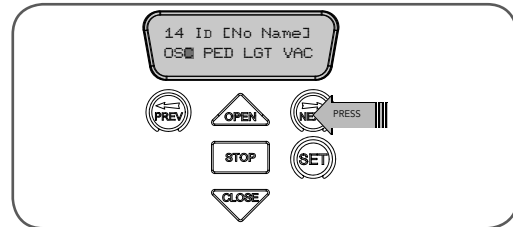

fig 29
1. Press NEXT or PREV to move the cursor over Store No. (Fig. 29)